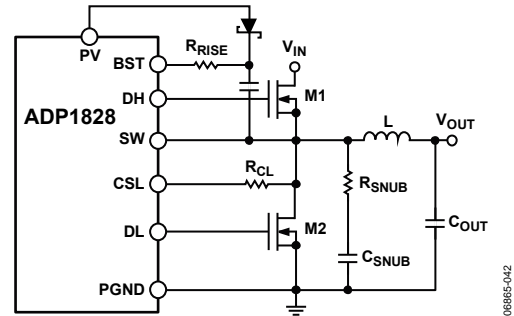

Figure 41. Application Circuit with a Snubber
In any high speed step-down regulator, high frequency noise (generally in the range of 50 MHz to 100 MHz) and voltage overshoot are always present at the gate, the switch node (SW), and the drains of the external MOSFETs. The high frequency noise and overshoot are caused by the parasitic capacitance, C_{gd} , of the external MOSFET and the parasitic inductance of the gate trace and the packages of the MOSFETs. When the high current is switched, electromagnetic interference (EMI) is generated, which can affect the operation of the surrounding circuits. To reduce voltage ringing at the drain of the MOSFET, an RC snubber can be added between SW and PGND, as illustrated in Figure 41. In most applications, R_{SNUB} is about 2 Ω , and C_{SNUB} about 1.2 nF. R_{SNUB} and C_{SNUB} can be calculated using the following equations:
In most applications, a size 0805 component is sufficient. The use of the RC snubber reduces the overall efficiency, generally by an amount in the range of 0.1% to 0.5%. However, the RC snubber cannot reduce the voltage overshoot. A resistor, shown as R_{RISE} in Figure 41, at the BST pin could help to reduce overshoot and is generally between 1 Ω and 5 Ω .